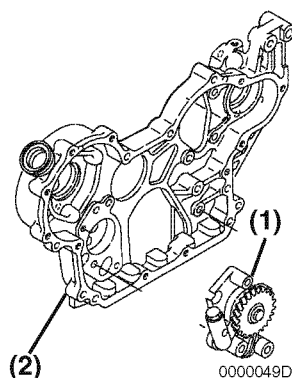

Figure 9-24
2. Remove the oil pump assembly bolts. Remove the oil pump assembly (**Figure 9-24, (1)**) from the gear case housing (**Figure 9-24, (2)**).